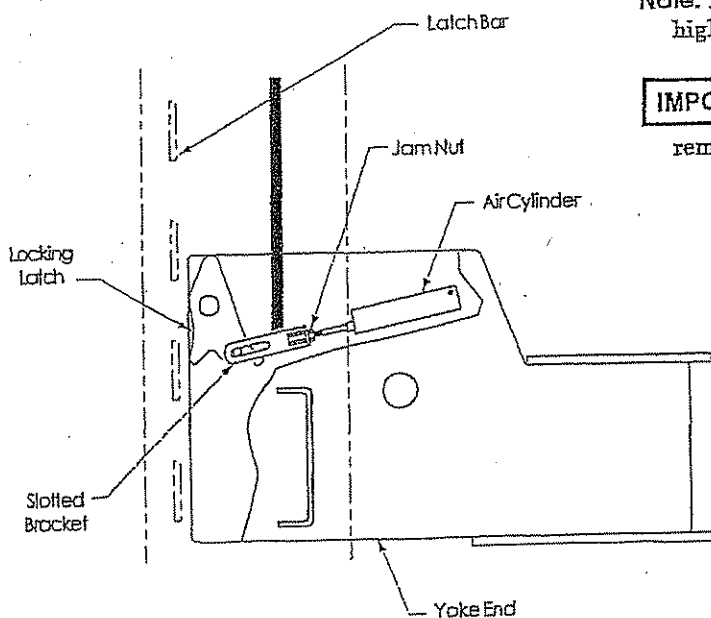

Fig. 23
- H. Actuate air valve and check latch operation on all four (4) corners. When releasing locks, the locking latch should pull back flush with yoke end to clear the latch bar located in all four (4) columns, Fig. 23. Adjust, if required, by removing cotter pin and washer holding Slotted Bracket on locking latch and screwing Slotted Bracket in to move it toward the air cylinder. After adjustment, replace washer and secure Slotted Bracket with a NEW cotter pin. Tighten jam nut. Apply Loctite® to jam nut to hold in place.